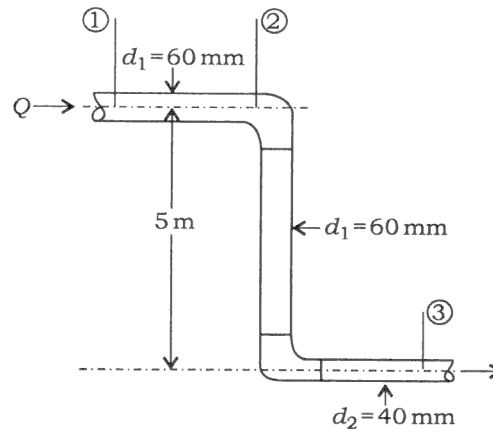

Fig. 5(d)
- (d) For the simple pipe system shown in Fig. 5(d) below, the pressures measured are $p_1 = 19.58 \text{ kPa}$, $p_2 = 14.685 \text{ kPa}$ and $p_3 = 9.79 \text{ kPa}$ when the discharge is 11 L/s . Determine the head loss (i) between 1 and 2, and (ii) between 1 and 3. Take $\gamma = 9.79 \text{ N/m}^2$, $g = 9.81 \text{ m/s}^2$: